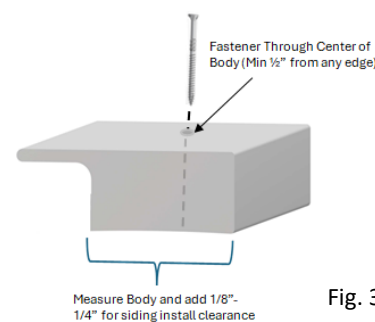

Fig. 3
2. Measure the body of the trim and add 1/8" - 1/4" to ensure clearance between the top of the siding panel and the base of the trim pocket (Fig 3).
- a. Finish nail, decking screw or Cortex screw (with matching plug) into the center of the main body of the trim, no less than 1/2" from any edge or end (Fig 3).
2. Measure the body of the trim and add 1/8" - 1/4" to ensure clearance between the top of the siding panel and the base of the trim pocket. (Fig. 3).
- a. Finish nail, decking screw or Cortex screw (with matching plug) into the center of the main body of the trim, no less than 1/2" from any edge or end (Fig. 3).